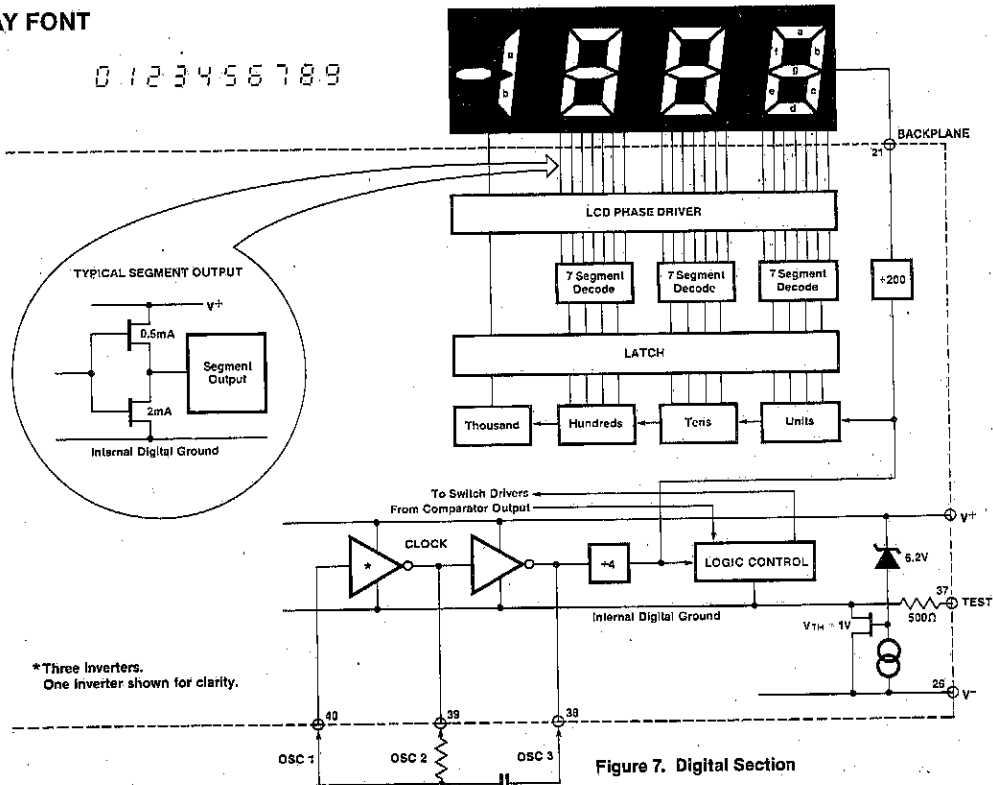

Figure 7. Digital Section
Figure 7 shows the digital section for the 7136. An internal digital ground is generated from a 6V Zener diode and a large P channel source follower. This supply is made stiff to absorb the relatively large capacitive currents when the backplane (BP) voltage is switched. The BP frequency is the clock frequency divided by 800. For three readings/second this is a 60Hz square-wave with a nominal amplitude of 5V. The segments are driven at the same frequency and amplitude and are in phase with BP when OFF, but out of phase when ON. In all cases negligible DC voltage exists across the segments. The polarity indication is "ON" for negative analog inputs. If IN LO and IN HI are reversed, this indication can be reversed also, if desired.